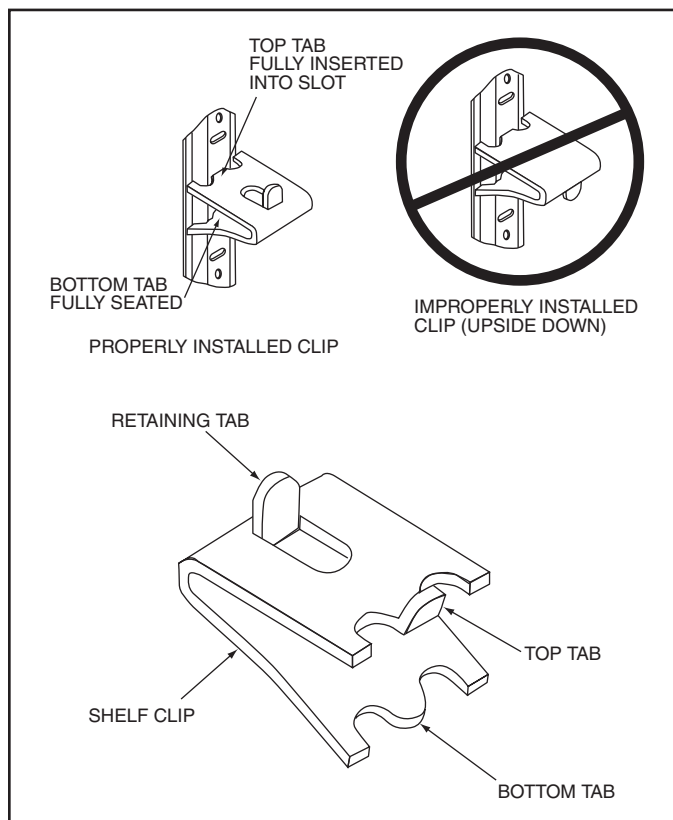

Figure 2. Shelf clip installation.
2. Insert the top tab of the shelf clip into the desired hole of the pilaster. The retaining tab should be facing upward, as shown in Figure 2.
7. Before loading the shelf, ensure that the shelf is resting on each of the four clips and that the clips are installed as shown in Figures 2 and 3.